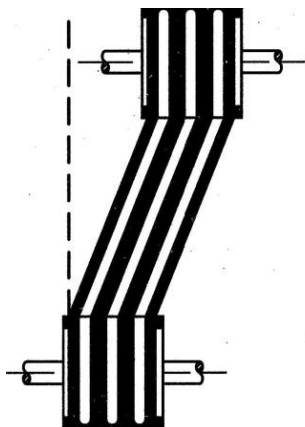

Figure 4.13 Pulleys are not aligned
- The pulleys are not aligned as shown in **Figure 4.13**.